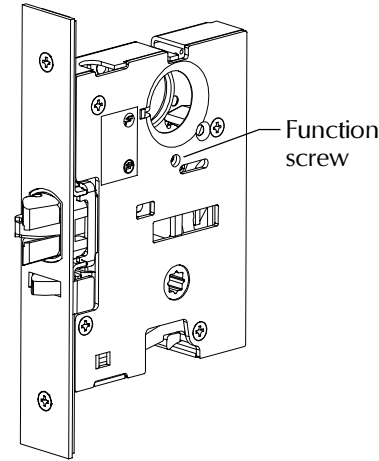

Figure 1
4. Turn mortise lock function screw all the way in (see Figure 1). Skip this step for BE trim or E98/9975 or 98/9975-2 devices (see end of device carton for device identification).